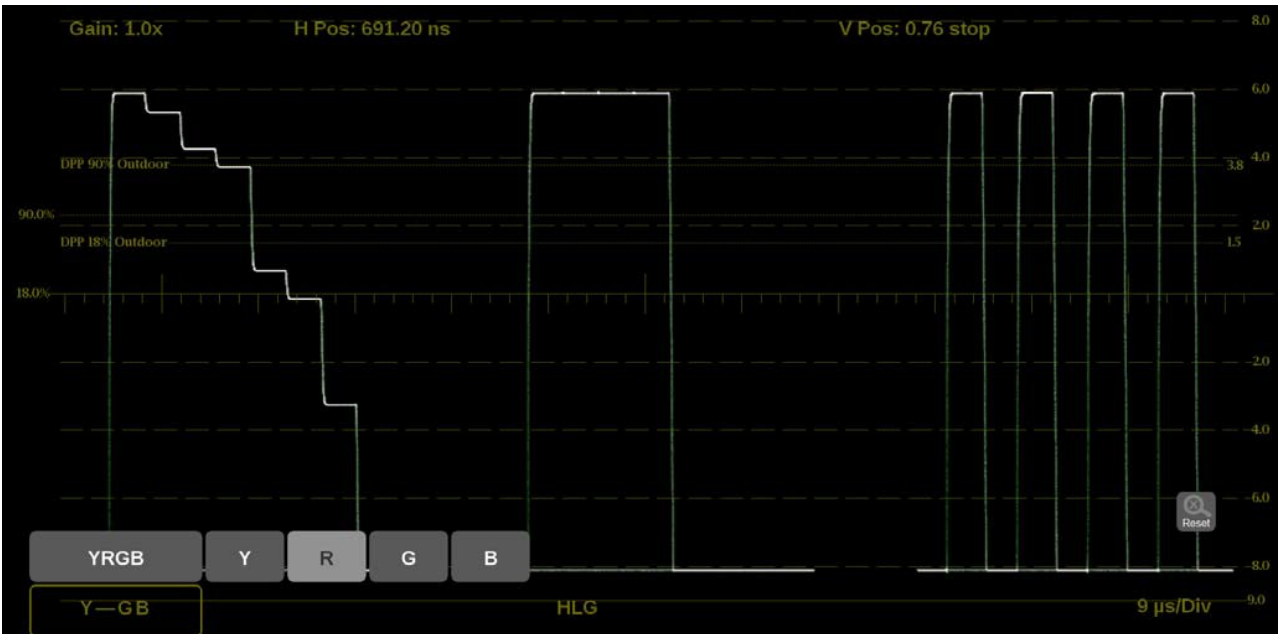

Figure 203: Stop Display on-screen tools – Display Mode
1. Select the button in the bottom left corner of the application to expand the available display options. (See Figure 203.)